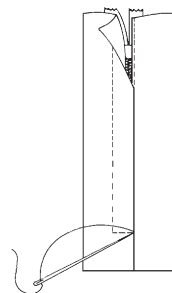

Fig. 9-7
12. Pull the upper thread at the bottom of the zipper to the inside of the garment by using a hand sewing needle. Tie the upper and bobbin threads together and clip the threads close to the garment. (Fig. 9-7) Remove all basting stitches. Press.